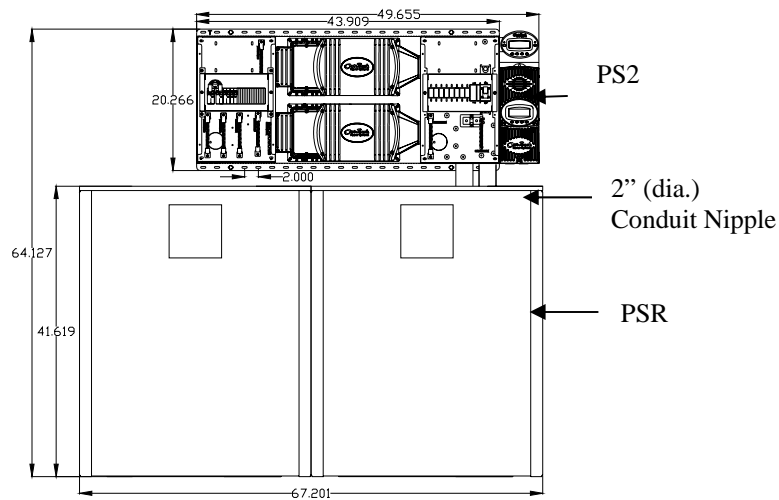

Figure 1 PS2 System Dimensions (inches)
1. Determine the desired height of the assembly. Generally the height of assembly is arbitrary. However, if a battery storage box such as the OutBack PSR to be placed below the PS2 system, the bottom of the mounting plate (PS2MP) should be between 44" and 46" off the ground. The PSR is 42 inches high. Connection between the PS2 and PSR is made via a 3" or 6" long conduit nipple (2" diameter). The PS2DC bottom knockouts are located to match up with the PSR top knockouts. Figure 1 shows the dimensions of the PSR and PS2 system. If you are not using a PS2MP, but you will be using an X-240 Autoformer, **you must mount the X-240 to the PS2AC before you assemble the rest of the system.**